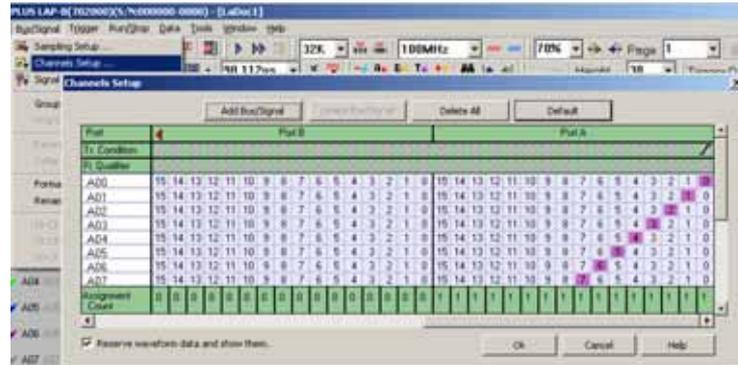

Fig 4-30 – Channels Setup
The dialog box in Fig 4-30 will appear.
3. Default: Click **Default** to restore the dialog box of Channels Setup as shown in Fig 4-30.